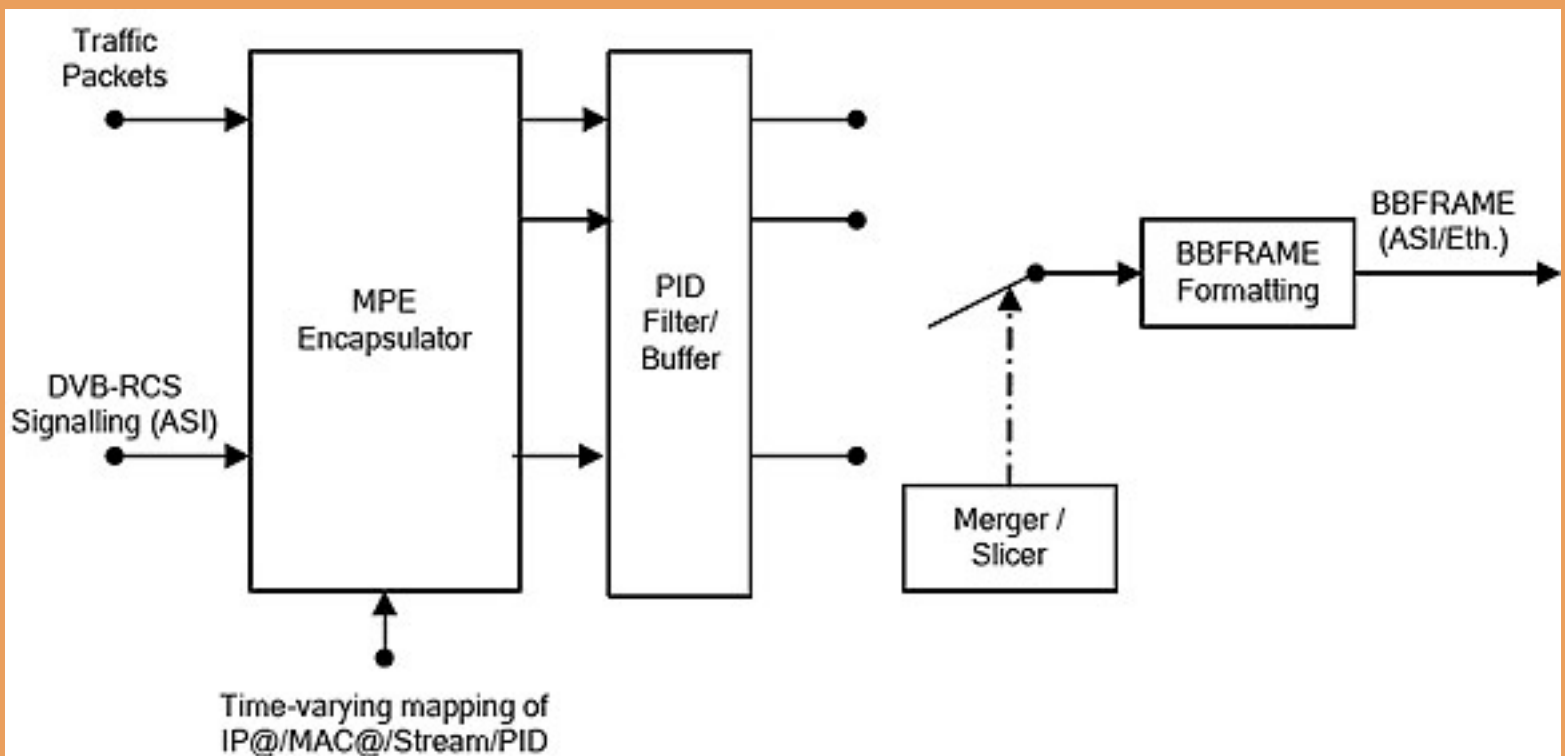
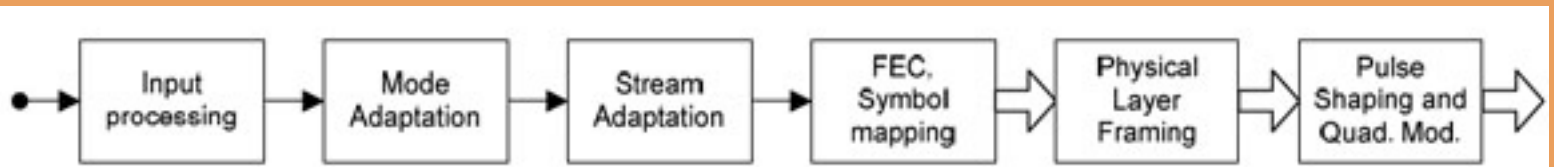

Figure 6: Functional Block Diagram of ACM Modulator
Figure 7: Functional Block Diagram of CCM Modulator
When operating with adaptive coding and modulation (ACM), the modulator must also perform certain timing functions that actually modify the transmitted data. Top-level block diagrams for the two versions of the modulator defined in this document are shown in *Figure 7* and *Figure 6*. The two versions are described in the sequel. The CCM functionality is a strict sub-set of the ACM functionality.
- **CCM Modulator** — This modulator performs a single, sequential chain of operations, see *Figure 7*. The input consists of an MPEG Transport Stream. If the input data rate is too low for the symbol rate, Null packets are inserted in the stream. If it is too high, packets are discarded, for example using a leaky-bucket policy. Aside from the differences in the actual modulation and coding schemes used, this modulator is functionally very similar to a DVB-S modulator. The “mode adaptation” and “stream adaptation” blocks serve to create DVB-S2 BBFRAME’s and FECFRAME’s from the input MPEG packet stream; these terms are defined in the DVB-S2 standard. Following that, channel encoding (FEC) is added,